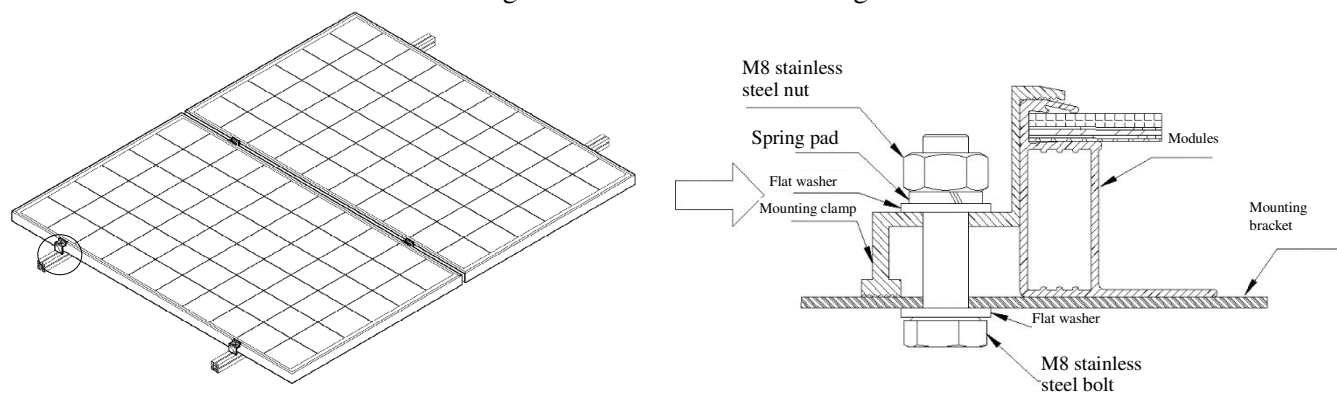

Figure 4 Installation of mounting clip
- Installation clip installation: Fix the mounting bracket with the module using the appropriate clamp, as shown in Figure 4.